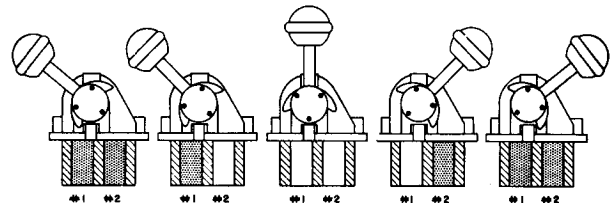

Figure 3
A five (5) position, four-way valve. A detent cam holds the handle in all five positions when released. See Fig. 3.